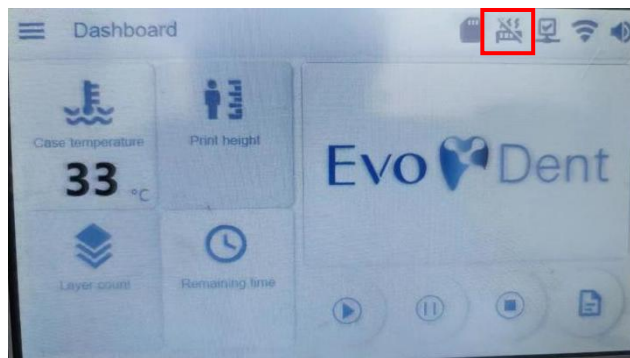

Figure 3-21
3. Heating function on/off: Click on "Dashboard" in the main menu as shown in 3-20 to access the dashboard page, as shown in Figure 3-21. Click on the icon selected by the red box in Figure 3-21 to control the on/off state of the heating function. (Note: If the heating function is enabled and the system detects that the chamber temperature has not reached the set temperature, it will not be able to enter the printing state, thus unable to print.) Status indication: